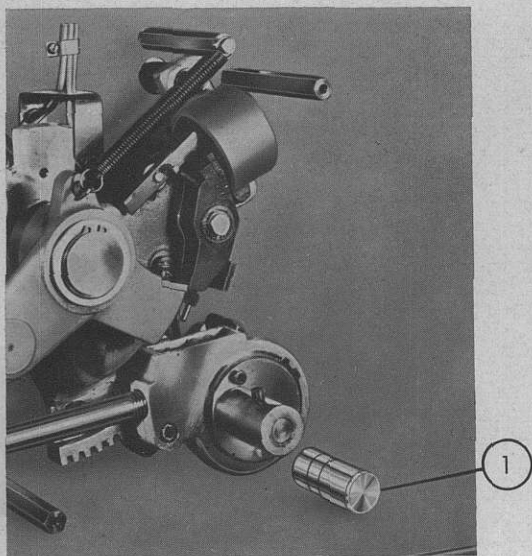

Fig. 26
- c) pull out the roller pin and remove the forward tape roller (No. 1, fig. 26);